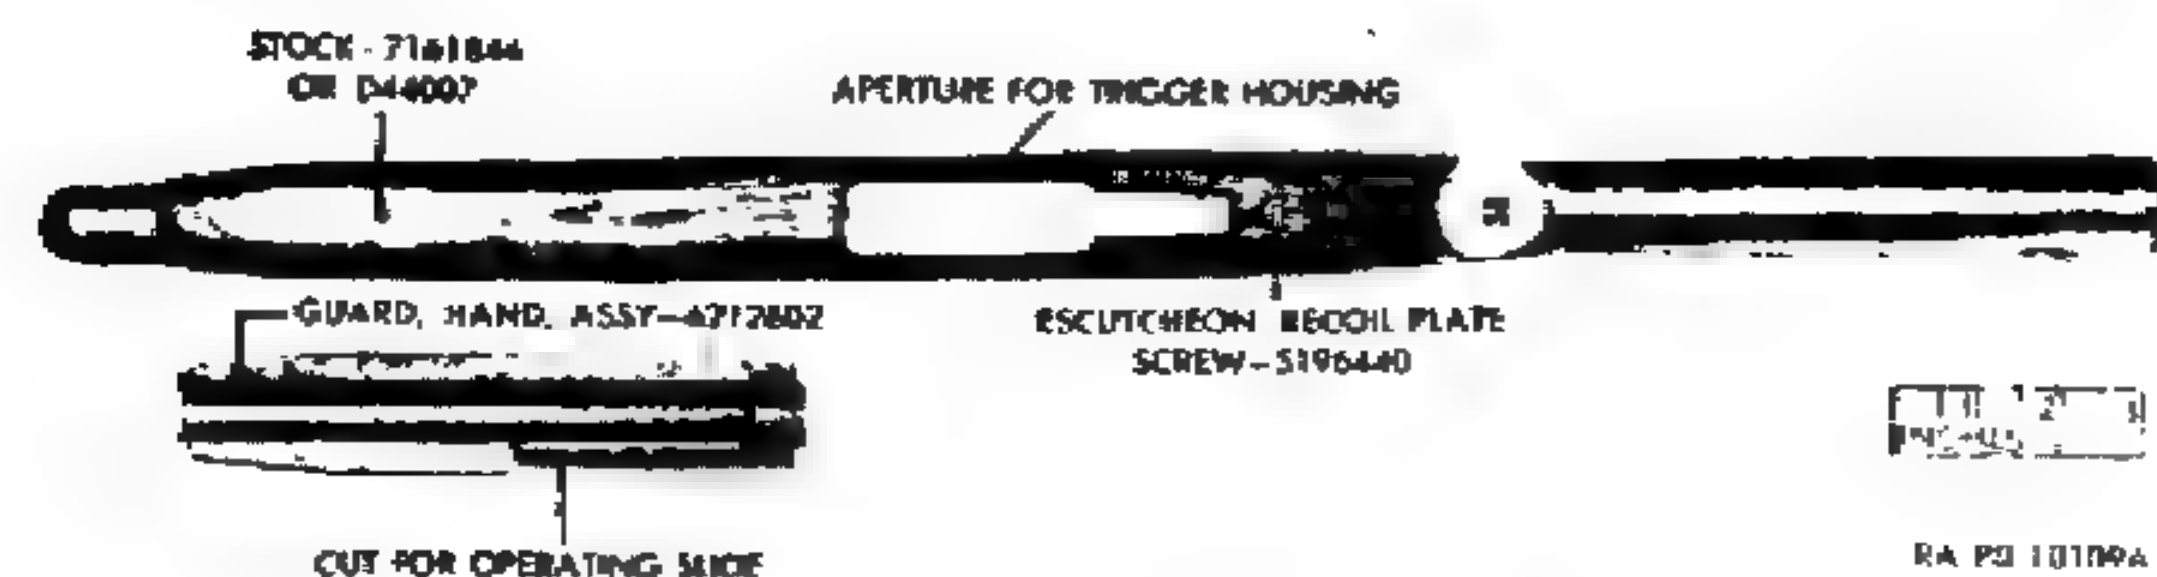

Figure 97. Stock and hand guard—carbine M1.
- (2) Relieve friction due to swelling caused by excessive moisture only enough to allow proper functioning and/or assembly, as wood may later dry out and shrink. Use of raw linseed oil will help to prevent undue swelling of wood due to excessive moisture.
- (3) Points to check for excessive friction or lack of sufficient clearance are—
- (a) Aperture in stock for trigger housing (figs. 97 and 108). There must be a minimum of 0.010-inch clearance between stock and the rear of the trigger housing. Less than 0.010-inch clearance between stock and trigger housing causes the shock of recoil to be transmitted to the trigger housing retaining pin. This is especially detrimental in the case of the carbines M2 and M3.
- (e) Forward shoulder of stock and hand guard where front band seats (figs. 97 and 108).